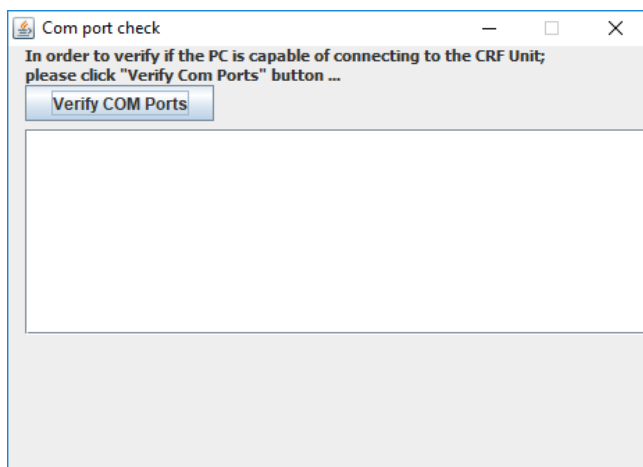

Figure 102. Verify COM Ports Screen
13. On clicking Verify COM Ports button, the application will start identifying the available COM ports and start establishing the connection. When Valid COM Port is found then it displays Port is Valid and PC Interface application is ready, as shown below **Figure 102**.